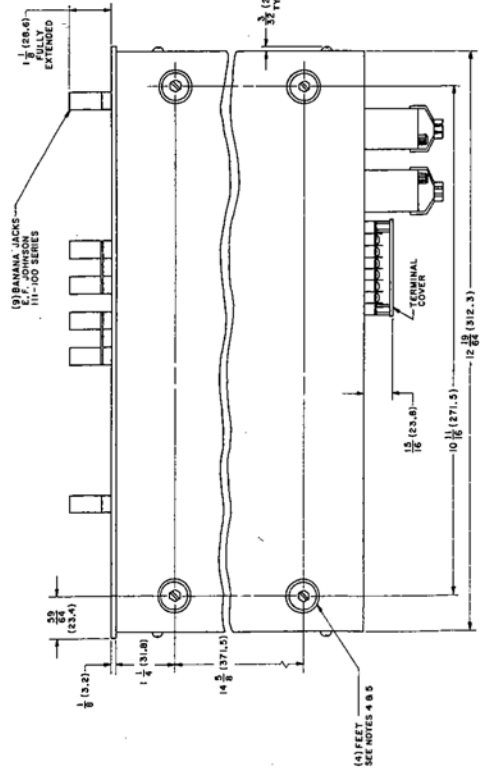

FIG. 1-4 MECHANICAL OUTLINE DRAWING, 3/4 RACK MODELS (SHEET 1 OF 2)
- A) **DIMENSIONS:** See "Mechanical Outline Drawing". FIG. 1-4.
- B) **FINISH:** See "Mechanical Outline Drawing". FIG. 1-4.
- C) **FRONT PANEL METERS:** Two (2) "zero center" meters, monitoring the  $\pm$  d-c output voltage and the  $\pm$  d-c output current, are provided; 2½ inches wide, recessed; Accuracy,  $\pm 2\%$  full scale.
- 2-11 These BOP models may be bench operated or installed in the RA-24 or RA-37 Rack Adaptors, as listed in Section I, Paragraph 1-13. Installation instructions are provided with the respective rack-adaptor models. For rack-mounting, or mounting onto any flat surface, the (4) bottom aluminum feet of the BOP must be removed. Four (4) plastic mounting inserts are provided on the bottom of the BOP chassis. See Section I, FIG. 1-4, "Mechanical Outline Drawing".
#### 2-12 INSTALLATION OF FULL-RACK BOP MODELS (Refer to Section I, Fig. 1-4 and to FIG. 2-4).